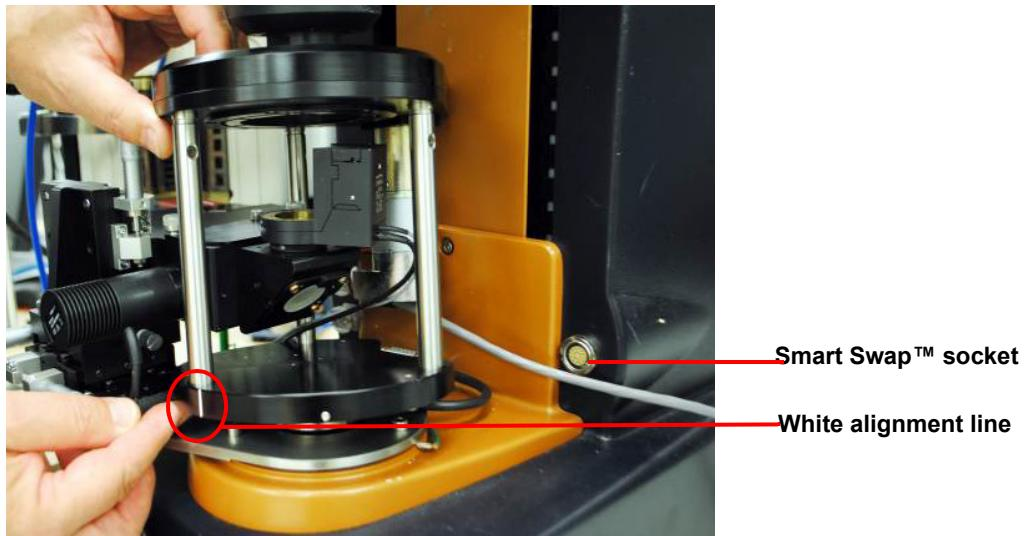

Figure 29 Fitting the optical plate onto the Smart Swap base.
- 5 Fit the optical plate, ensuring it is aligned correctly. See Figure 29.